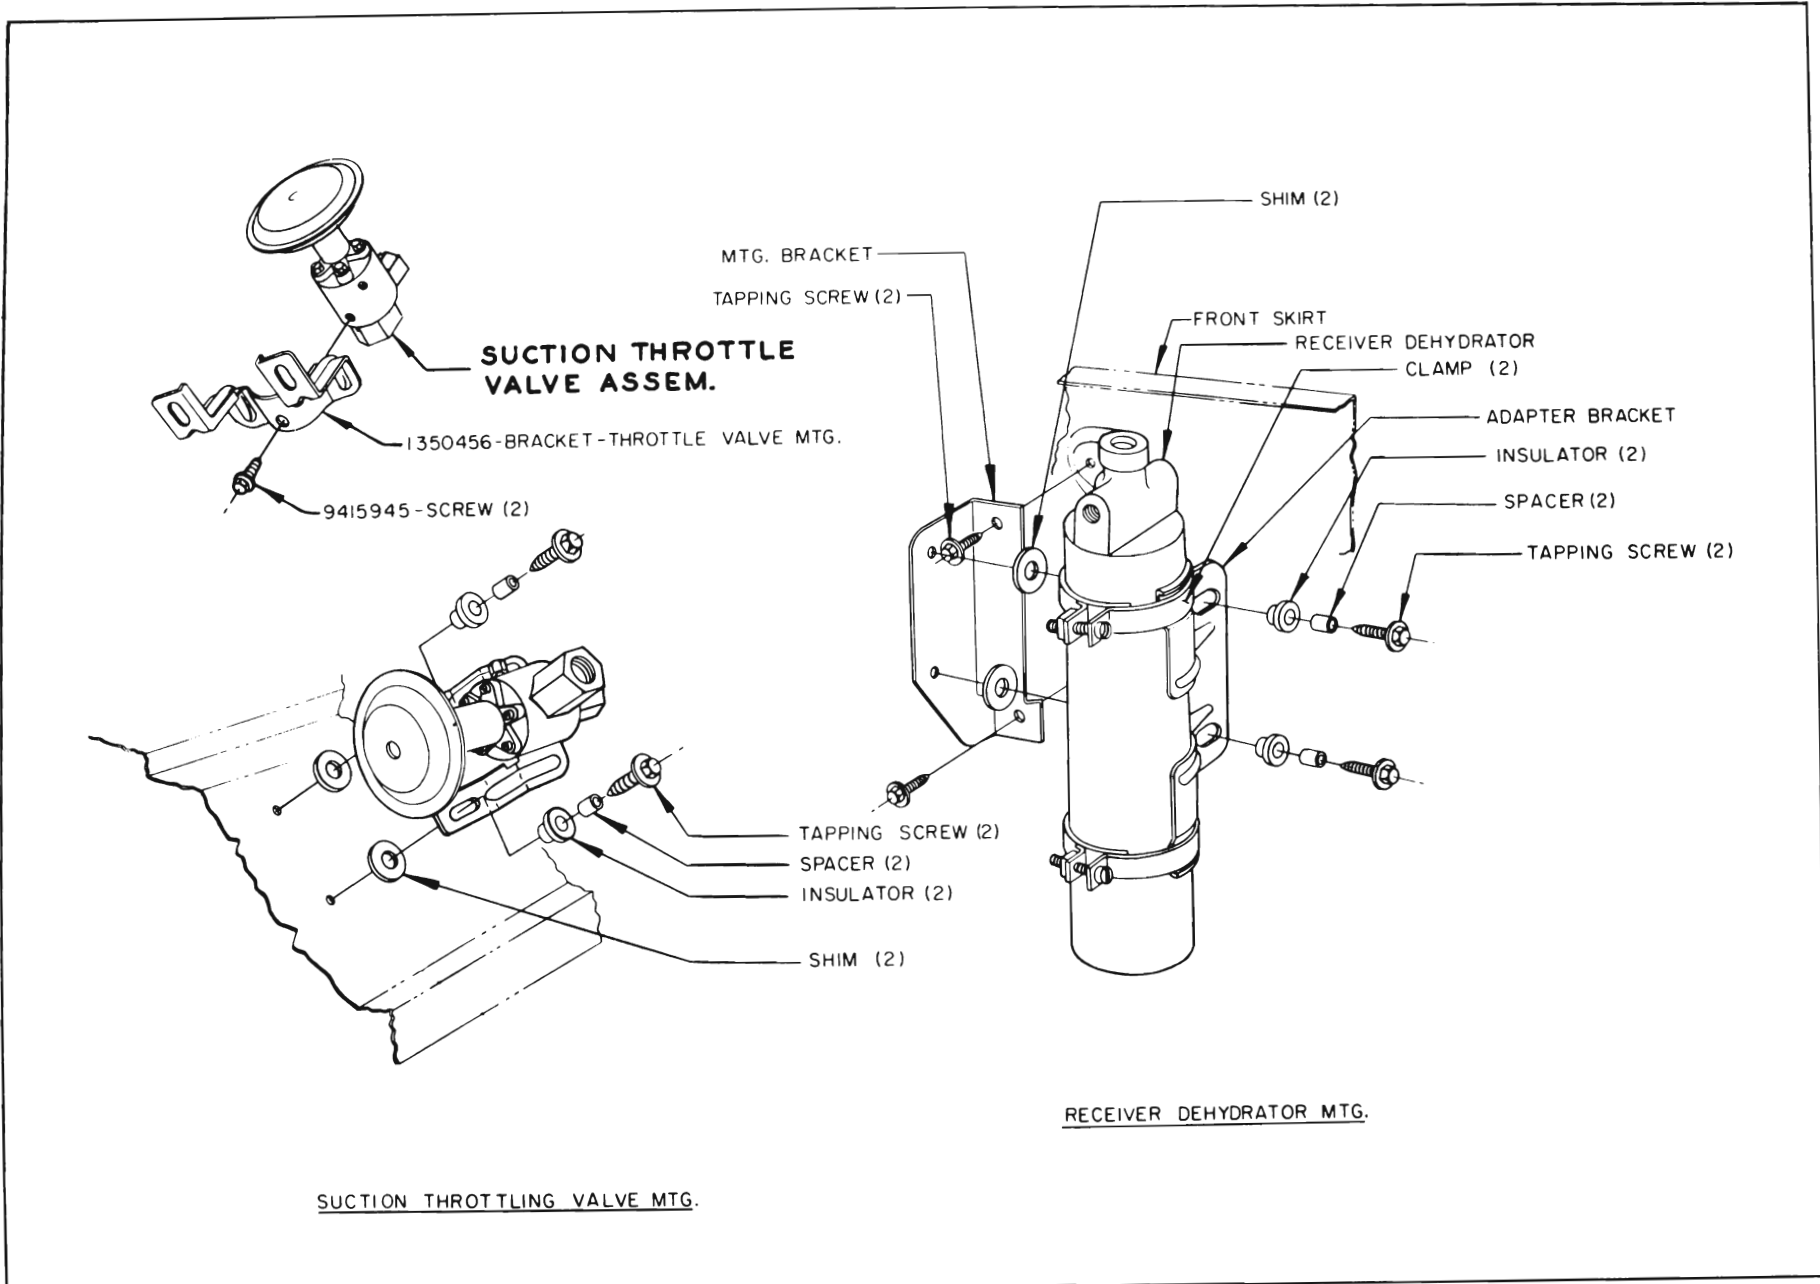

Figure 11-67—Suction Throttle Valve and Receiver-Dehydrator Installation
3. Remove valve mounting screws and remove valve. See Figure 11-67.